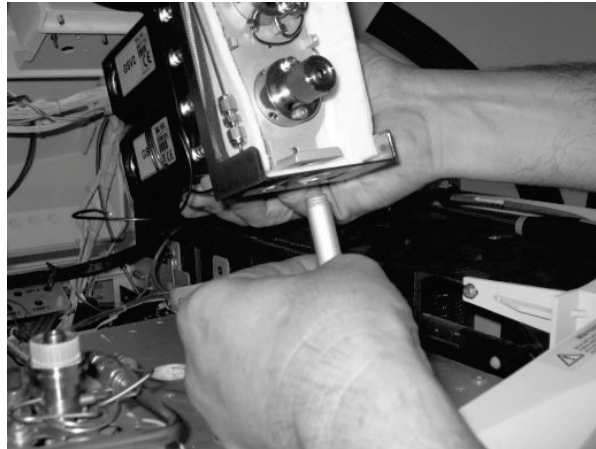

Figure 18 Installing the heated extension tube
8. Screw the heated extension tube (P/N L8201941) into the bottom of the GSV heated block and tighten it by hand (Figure 18).